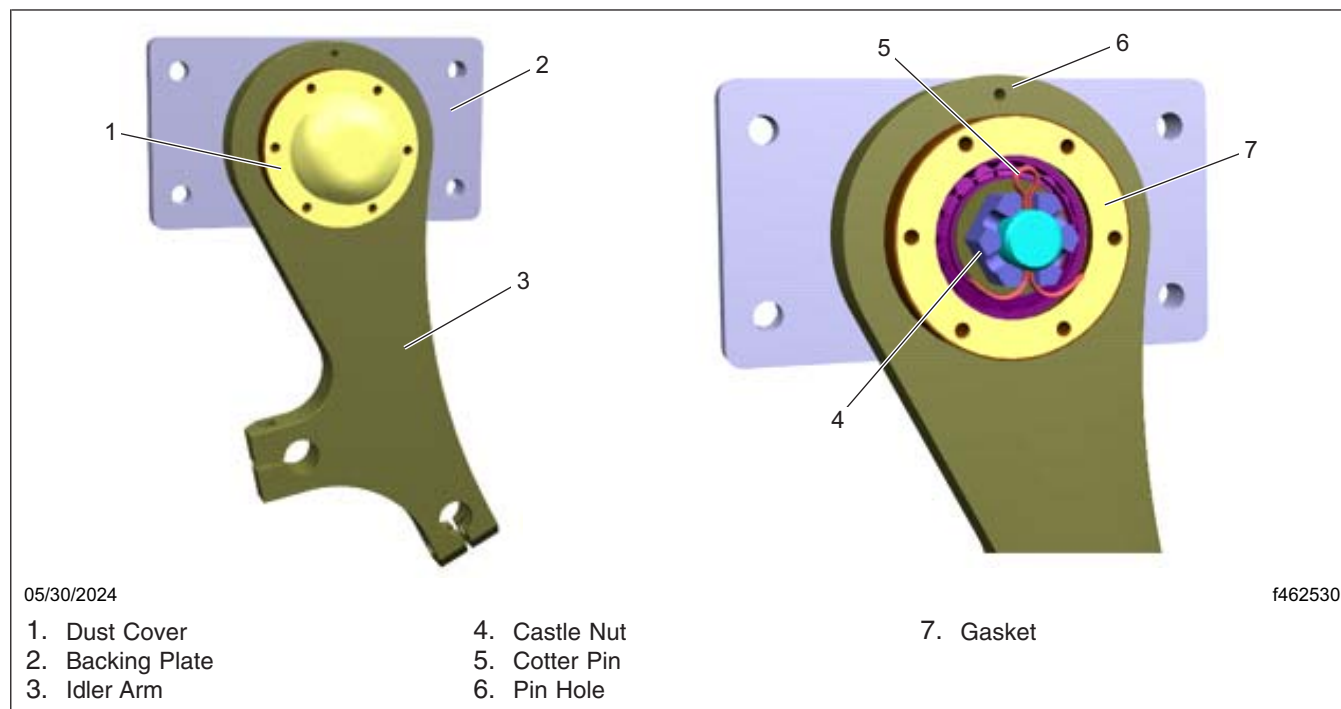

Fig. 5, Dust Cover Removal
7. Remove the idler arm dust cover fasteners, and remove the dust cover. Discard the gasket. See Fig. 5.